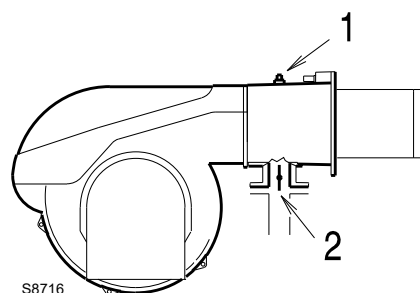

Fig. 27
Gas pressure measured at the test point 1)(Fig. 27), with:
Pressure loss at gas butterfly valve 2)(Fig. 27) with maximum opening: 90°.
- Subtract the combustion chamber pressure from the gas pressure measured at test point 1)(Fig. 27).
To know the required gas pressure at test point 1)(Fig. 27), set the maximum output required from the burner operation, then:
- Read, on the right (column 1) the socket pressure 1)(Fig. 27).
pressure required at test point 1)(Fig. 27).